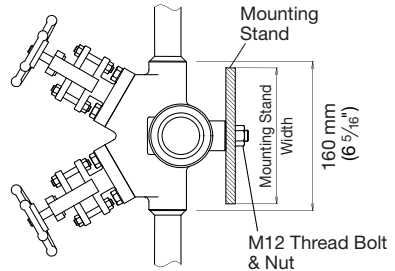

Figure 1
4. Using M12 threaded bolts, attach the manifold to the mounting stand (figure 1). Install the manifold vertically with the raised "TLV" lettering on the body right-side up and horizontal.